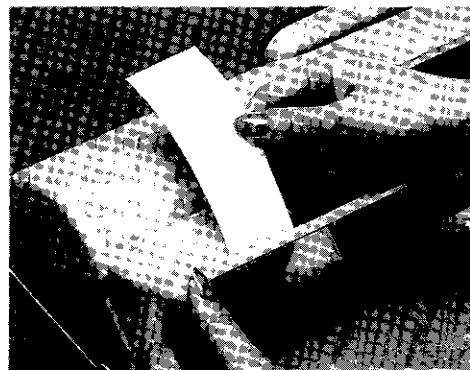

Fig. 1-5.
3. Pass the leading edge of the paper through the paper outlet in the printer cover (Fig. 1-5), and close the cover.